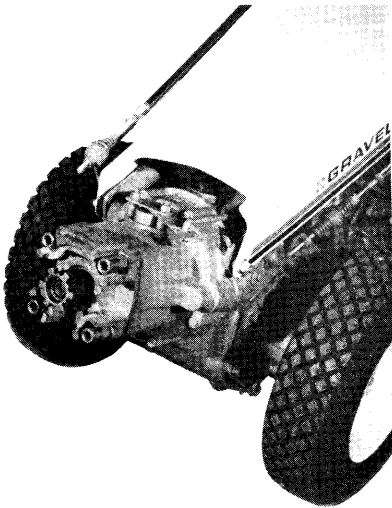

Fig. 8
1. Slide the attachment dog (item 47) onto the splined PTO shaft of tractor. See Fig. 8